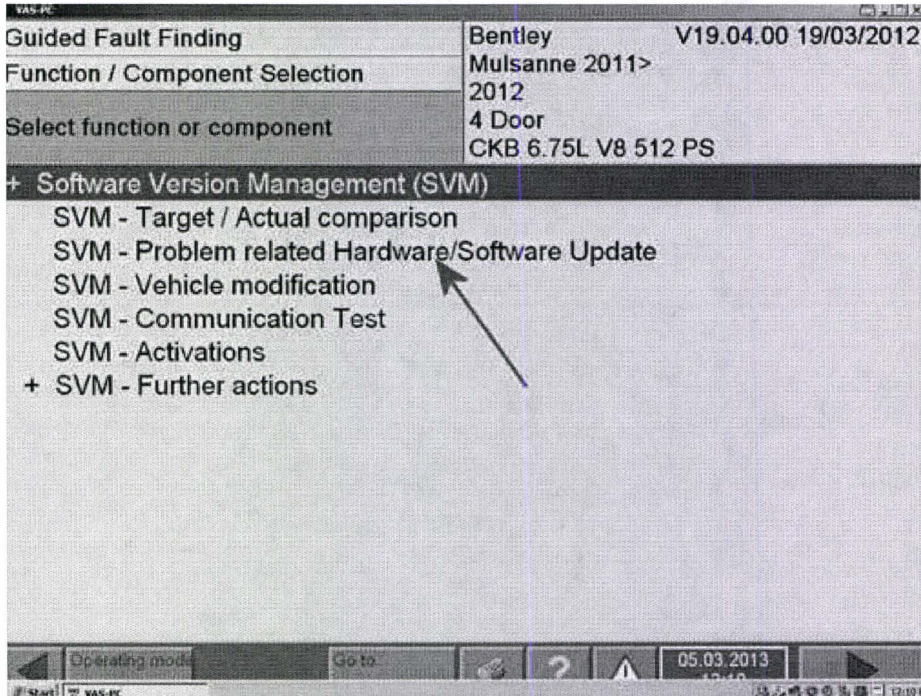

Figure 7
- Select Problem related hardware/software update (Figure 7) and follow the relevant on screen prompts